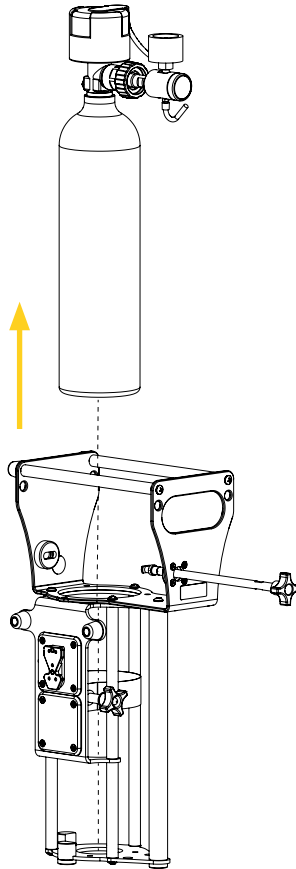

Figure 13: Removing the gas cylinder from the Techni-INO
5. Carefully lift and remove the gas cylinder vertically out of the mounting bracket (Figure 13), then momentarily place it on the floor, or place it in its dedicated storage space. Refer to your established internal protocols, and the gas cylinder user documentation for the safety guidelines and safe use if needed.